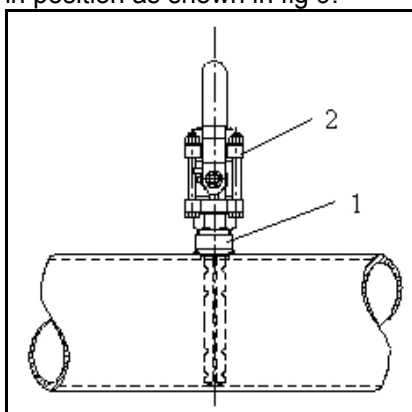

Fig 9
3. Tack the mounting stud (1) (supplied with the Flo-Tap) onto the pipe leaving a clearance of 1-2 mm (see fig. 9)
5. Fasten unit Isolating valve (2) to the mounting stud (1) and open valve. Verify that the stem is in position as shown in fig 9.
12. Install the threaded stud (5) on the isolating valve (2) (see fig 9 and 11).
14. Check all connections for leakage by cracking open the unit isolating valve. If the unit was ordered with the optional high-temperature packing gland. If necessary, screw down the nut (6) of the top packing gland and the 4 screw nuts (7) of the bottom packing gland.